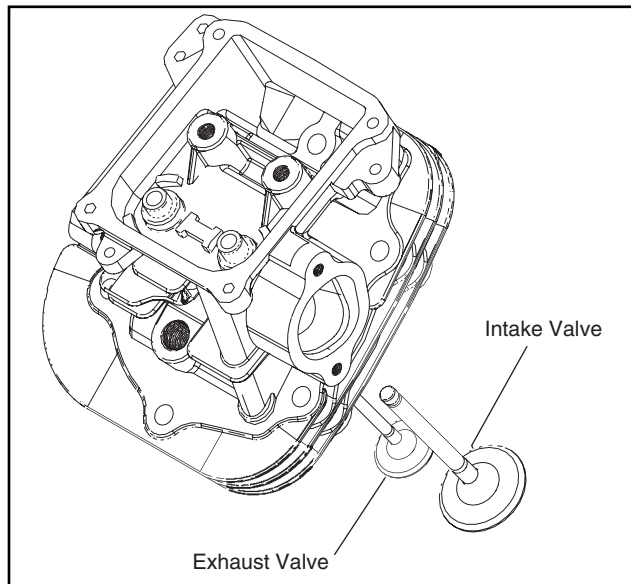

Figure 5-14. Install Valves
2. Install valves (Figure 5-14).